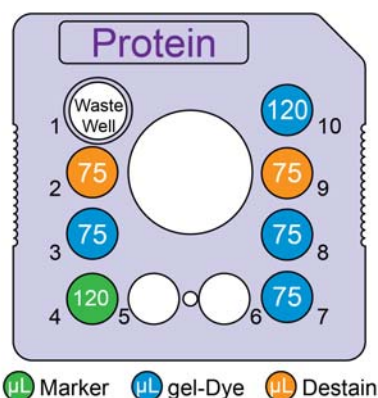
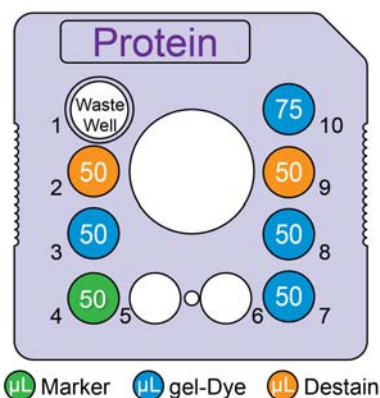

Figure 3. Reagent placement for High-throughput (up to 384 samples)
Figure 4. Reagent placement for Low-throughput (up to 48 samples)
- 5 Using a reverse pipetting technique, add Gel-Dye solution to chip wells 3, 7, 8, and 10 as shown in Figure 3 (High-throughput) or Figure 4 (Low-throughput).
- 6 Using a reverse pipetting technique, add Destain Solution from spin filter tube to chip wells 2 and 9 as shown in Figure 3 (High-throughput) or Figure 4 (Low-throughput).
- 7 Add Protein Express Lower Marker (green cap ●) to chip well 4 as shown in Figure 3 (High-throughput) or Figure 4 (Low-throughput). Make sure the marker volume is pipetted accurately. If there is not enough marker in chip well 4, the marker will deplete and will not be added to subsequent samples on-chip. Data collected without marker peaks cannot be analyzed by the software.